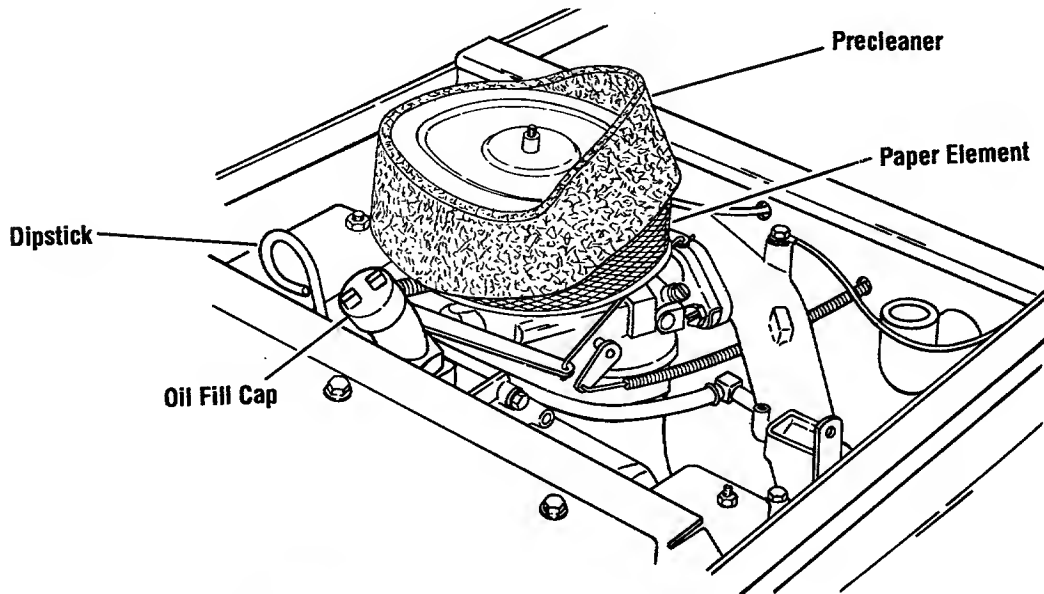

Fig. 7-1
1. Clean area around dipstick (Fig. 7-1) so dirt does not fall into crankcase when dipstick is removed.
**Add oil:** Remove the oil fill cap (Fig. 7-1) and add oil.
**Disassembly:** Clean off dirt from around air cleaner. Remove cover. Remove precleaner (Fig. 7-1) and paper element.
**Paper element:** (Fig. 7-1) Under normal conditions, disassemble and service paper element every 100 hours of operation.